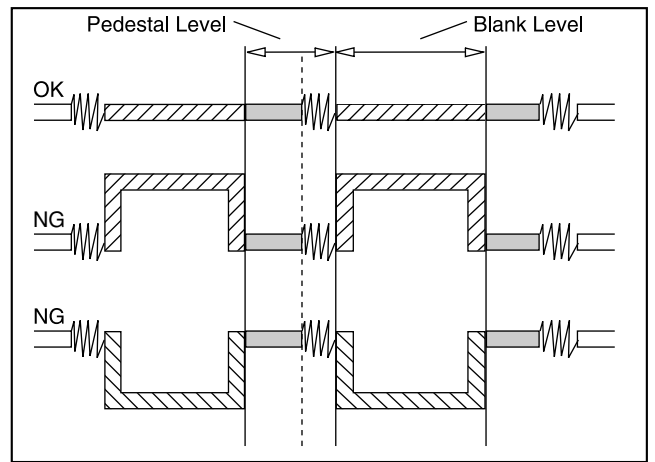

Fig. 3-1
2. Use the volume keys of the jig remote controller and adjust the pedestal & blank levels to be linear as shown in the Fig. 3-1.